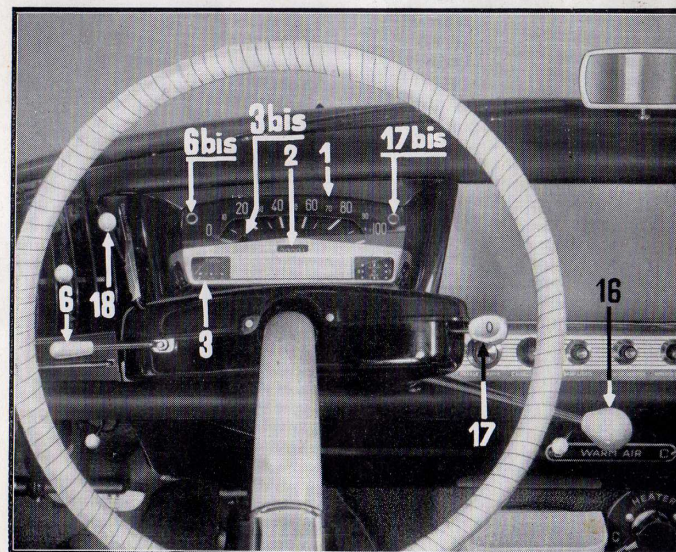

Figure 7
If the pressure in the hydraulic system controlling the power brake is insufficient a red warning light **3 bis** (fig. 7) lights up on the dashboard.
Dashboard (fig. 7 and 15).
1. Speedometer (fig. 7).
2. Total mileage recorded (fig. 7).
3. Fuel gauge (fig. 7).
- 3 bis.** Red warning lamp for checking the power brake (see above), works only when the ignition is on (fig. 7)
- 6 *bis.* Green light on the dashboard flashes during operation (fig. 7). To cancel pull lever towards you.
16. Gear shift lever (fig. 7 and 15).
17. Horn and lights combination control (fig. 7 and 15).
- 17 *bis.* Blue light on the dashboard indicates the high beam position (fig. 7).
18. Warm air distribution control for heating and defrosting (p. 28) (fig. 7 and 15).